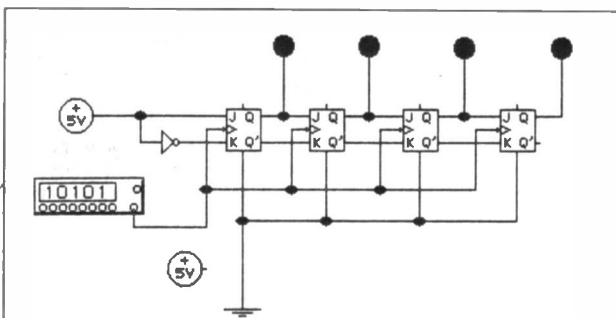
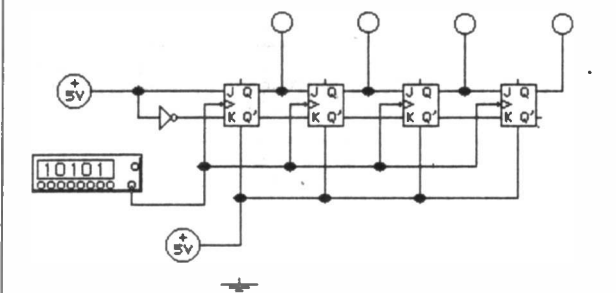

Fig. 8.26 Four-stage shift register (see Assignment 8.3).
Fig. 8.27 Clearing the shift register (see Assignment 8.3).
- Connect the arrangement shown in Fig. 8.26. The clock input is derived from the Word Generator's clock output and all J-K clock inputs are effectively connected in parallel. Note that the CLEAR input is connected to ground (logic 0) and the first stage data input is derived from +5V (logic 1).
- Apply clock pulses to the circuit shown in Fig. 8.26 and observe the state of the Q outputs (you may find it useful to construct a timing diagram after each clock pulse is applied). Check that the data is transferred from each stage to the next on each clock cycle.
3. Once the shift register has become full (i.e., all Q outputs have changed to logic 1) modify the logic arrangement as shown in Fig. 8.27. The presence of a logic 1 simultaneously on all CLEAR inputs will reset all of the Q outputs to logic 0. Check that this happens and then reconnect the circuit as shown in Fig. 8.26 and repeat step 2 until the shift register is once more filled with data.